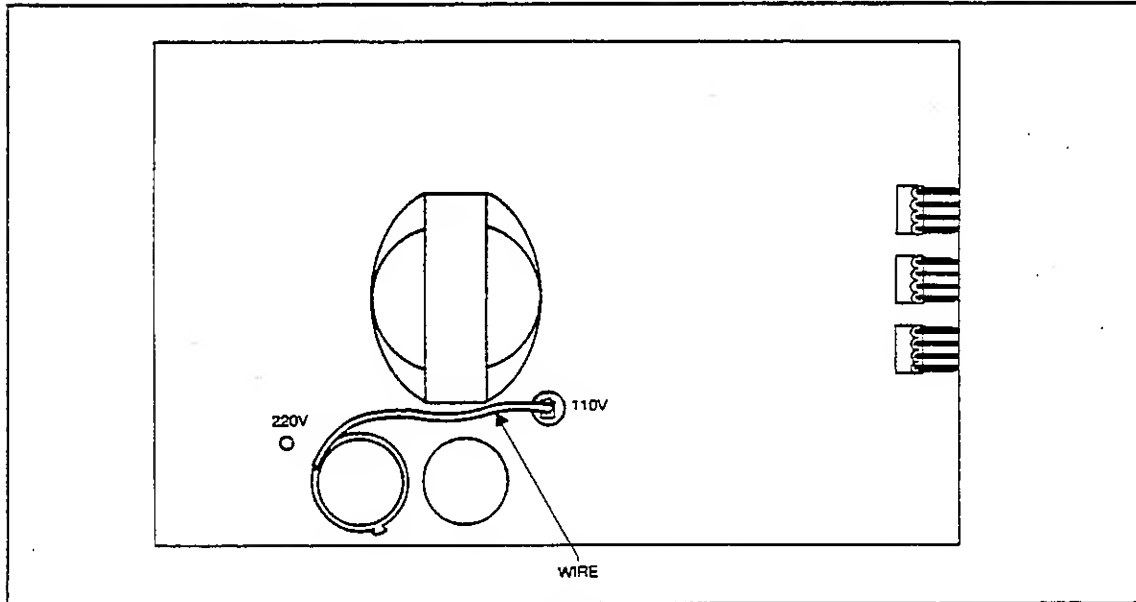

Figure 4-3. Line Power Voltage Pins
5. Refer to Figure 4-3 to locate the Line Power Voltage Pins on the Power Supply PCA.